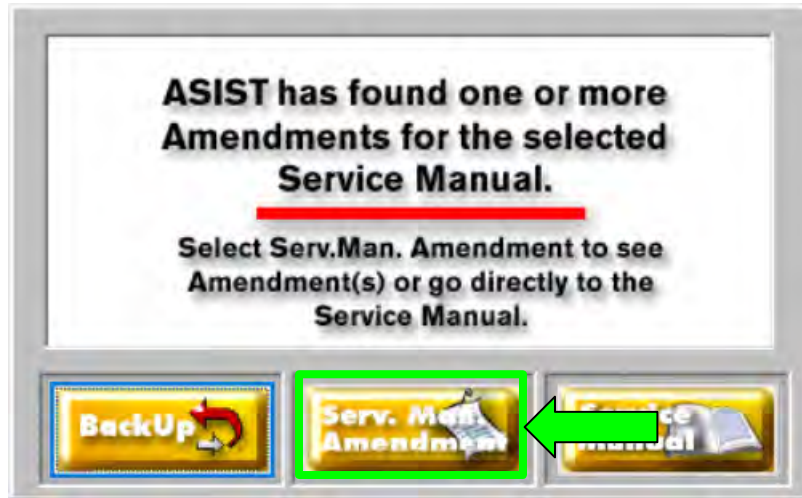

Figure 18
- d. **Serv. Man. Amendment** (see Figure 18).